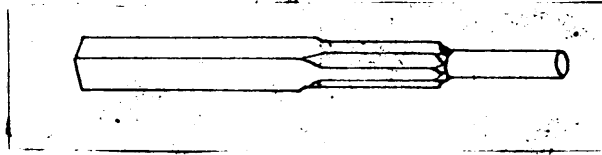

Figure 2.
(Figure 2).
8. Make it round by rolling the stock slowly on the anvil and hammering rapidly with light blows. (Figure 2).